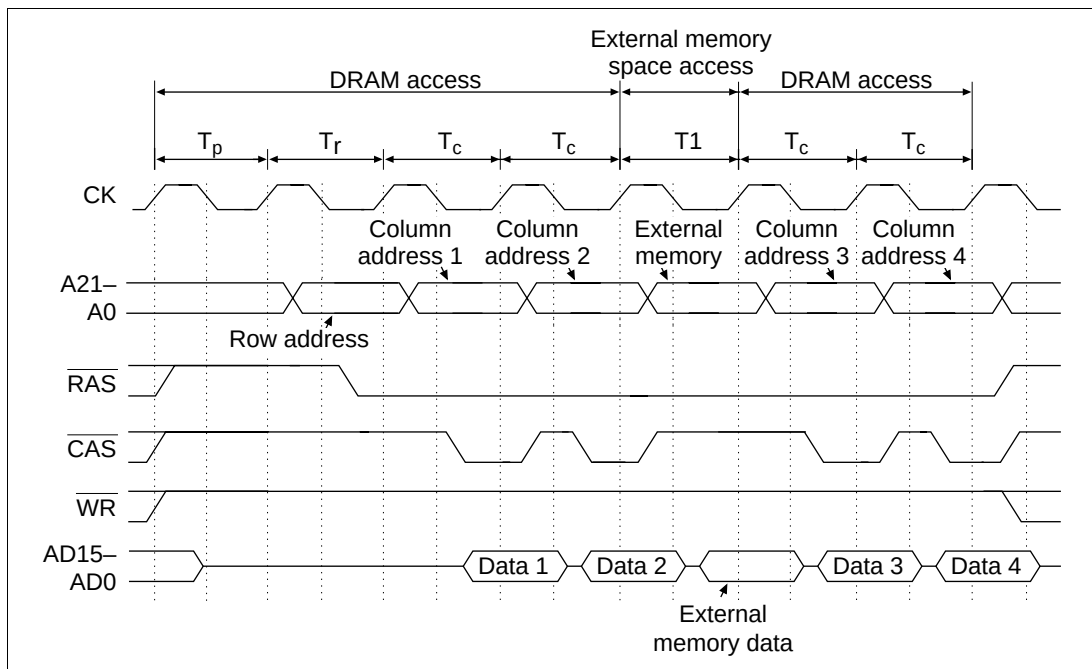

**Figure 8.27 RAS Down Mode**
- **RAS down mode:** When the RASD bit in DCR is set to 1, the DRAM access pauses and the  $\overline{\text{RAS}}$  signal is held low throughout the access of the other space while waiting for the next access to the DRAM area. When the row address for the next DRAM access is the same as the previous DRAM access, burst operation continues. Figure 8.27 shows the timing of RAS down mode when external memory space is accessed during burst operation.